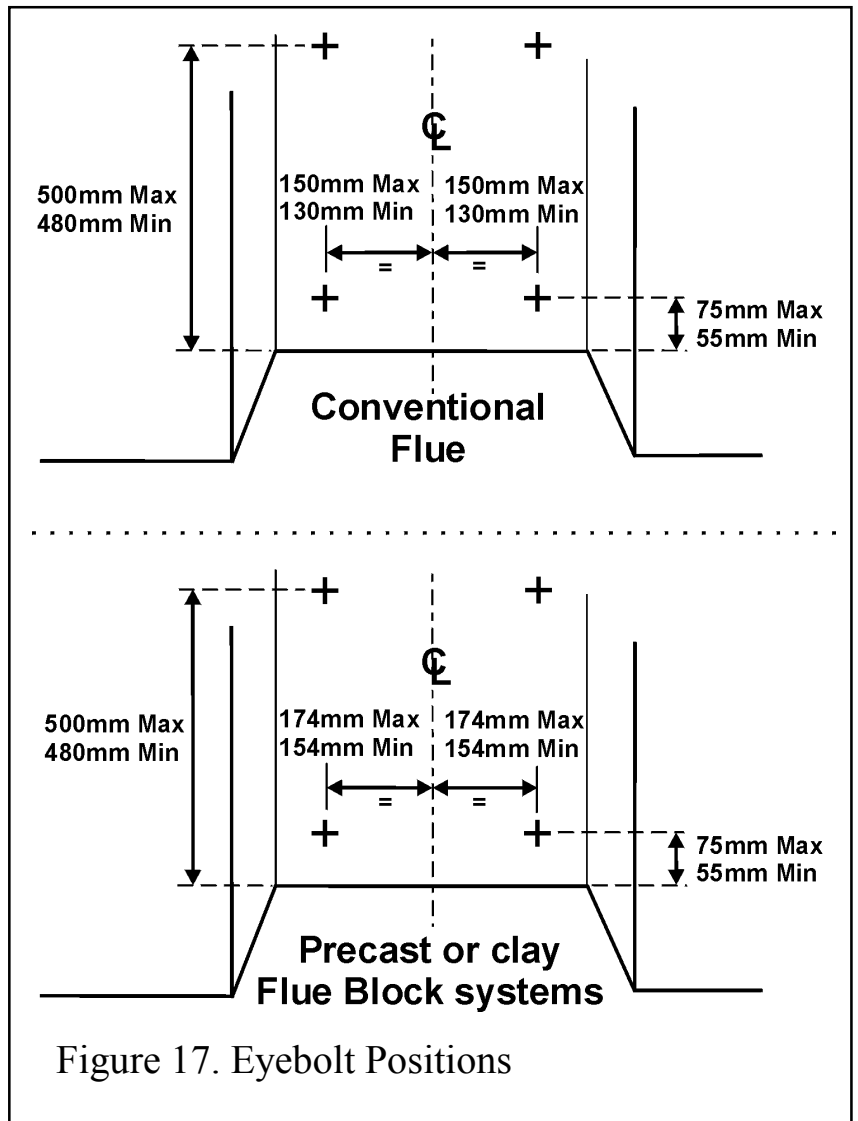

Figure 17. Eyebolt Positions
2. Drill four holes in the rear wall or floor of the fireplace for the eyebolt plugs. The holes should be drilled within the range of positions shown in figure 17 using a no.12 masonry drill. The holes should be equidistant each side of the centre line of the fireplace to ensure that the appliance finishes centrally in the opening when tension is applied to the cables.